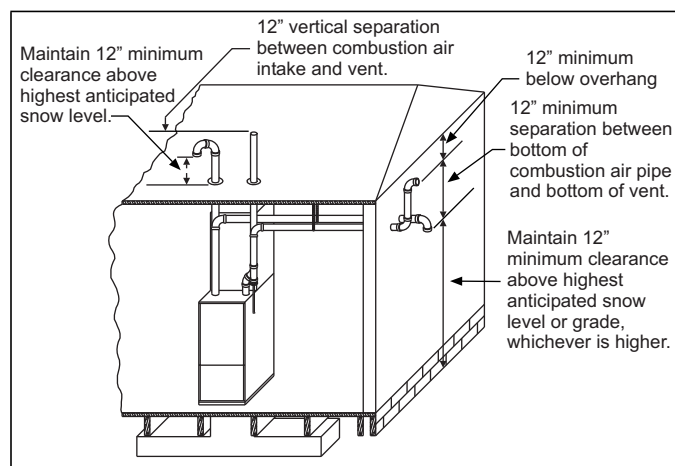
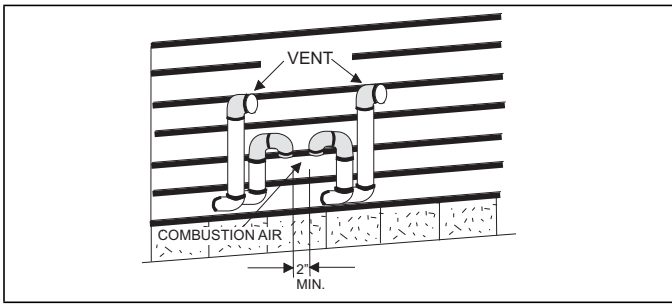

FIGURE 26: Termination Configuration - 2 Pipe
FIGURE 28: Double Horizontal Combustion Air Intake and Vent Termination
7. Direct vent systems must be installed so the vent and the combustion air pipes terminate in the same atmospheric zone. Refer to Figures 26 or 27.
The combustion air side of the two-pipe configuration shown in Figures 26 and 27 can be installed so the combustion air pipe terminates as described in outdoor combustion air or ventilated combustion air sections in these instructions. Follow the instructions for outdoor combustion air or ventilated combustion air and the instructions for installing the vent system with the vent terminating as shown in Figure 28 or 29. The two-pipe system must have a separate combustion air pipe and a separate vent pipe for each furnace. Under NO circumstances can the two combustion air or vent pipes be tied together. The combustion air and vent pipes must terminate in the same atmospheric zone.